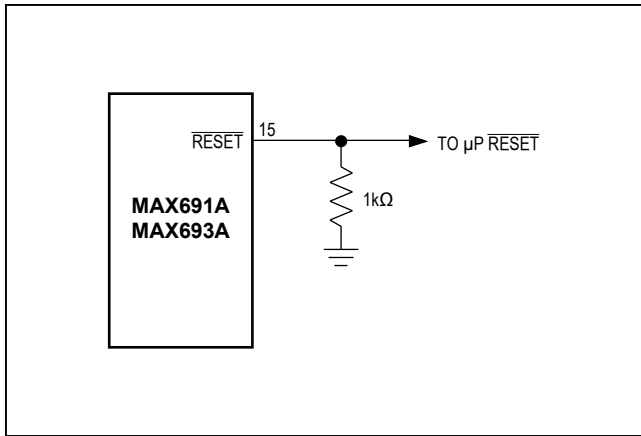

Figure 1. Adding an external pull-down resistor ensures  $\overline{\text{RESET}}$  is valid with  $V_{CC}$  down to GND.
sinks 3.2mA with a saturation voltage of 0.1V. When no backup battery is used,  $\overline{\text{RESET}}$  output is guaranteed to be valid down to VCC = 1V, and an external 10kΩ pulldown resistor on  $\overline{\text{RESET}}$  insures that it will be valid with VCC down to GND (Figure 1). As VCC goes below 1V, the gate drive to the  $\overline{\text{RESET}}$  output switch reduces accordingly, increasing the RDS(ON) and the saturation voltage. The 10kΩ pulldown resistor insures the parallel combination of switch plus resistor is around 10kΩ and the output saturation voltage is below 0.4V while sinking 40μA. When using a 10kΩ external pulldown resistor, the high state for  $\overline{\text{RESET}}$  output with VCC = 4.75V will be 4.5V typical.